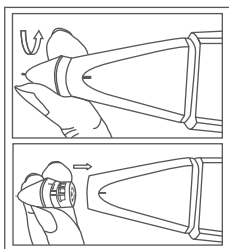

Fig. 1.07
1. When the tester is switched off, turn the probe tip anti-clockwise to remove it, as shown in **Fig. 1.07**.